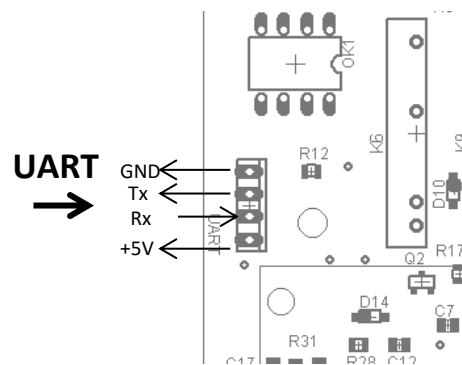

Figure 15 Connecting the modem
Modem (2) is connected according to diagram on Figure 15. Power supply cable's white wire is connected to motors wire (pin X2-8) and brown to X2-4. Adapter EP0005 cable is connected to modem and to controllers UART connector. Depending on the location of the modem, extension cables may be used.